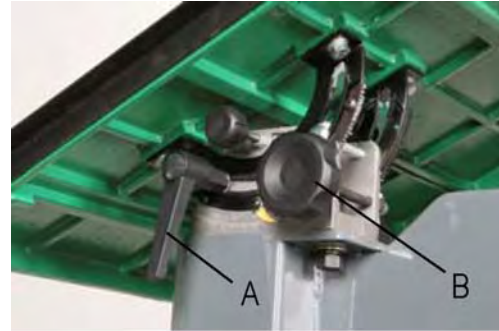

Fig. 9: Slope adjustment of the saw table
Step 1: Loosen the lock handle (Fig. 9, Pos. A) on the table trunnion.
Step 2: Turn the table tilting knob (Fig. 9, Pos. B) to adjust the table to the desired angle. Use the angle indicator scale on the trunnion bracket to find the desired angle.